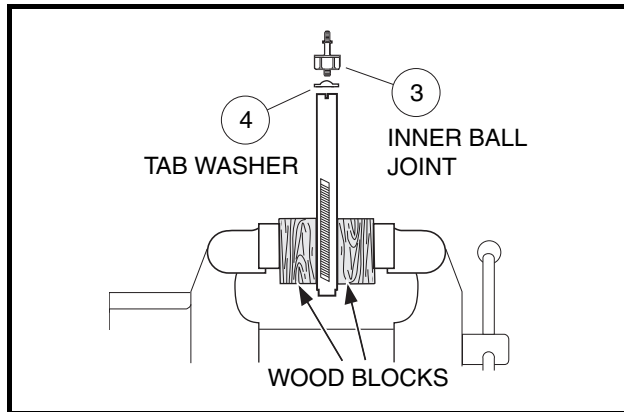

Figure 7-11 Secure Rack in Vise
13. If the inner ball joint (3) is excessively worn, remove the ball joint and tab washer (4) from the rack (Figure 7-11, Page 7-11).
- 13.1. Secure the rack in a vise using wood blocks between the rack and the jaws of the vise to protect the rack from damage (Figure 7-11, Page 7-11).
1. Install a new tab washer (4) and an inner ball joint (3) (**Figure 7-11, Page 7-11**). Install the ball joint onto the rack by securing the rack in a vise using wood blocks between the rack and the jaws of the vise to protect the rack from damage. Tighten the ball joint to 60 ft-lb (81 N·m).
2. Bend the edges of the tab washer (4) up against the ball joint (3) (**Figure 7-11, Page 7-11**).